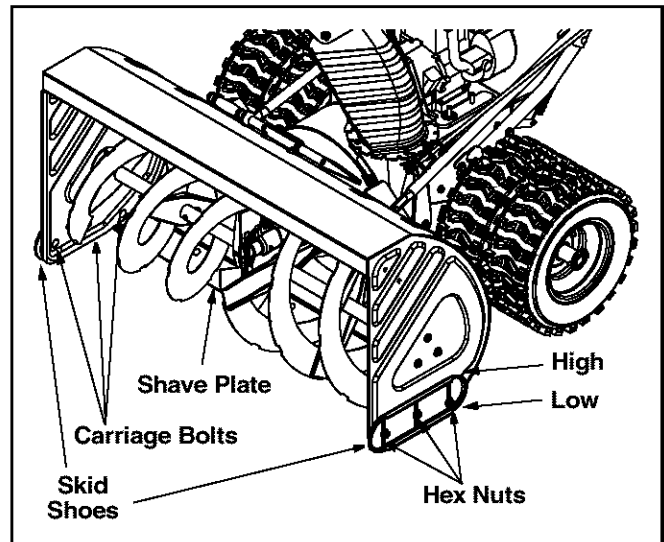

Figure 12
For close snow removal, as when using on a smooth concrete or asphalt driveway, place the skid shoes in the low position. Use the middle or high position when the area to be cleared is uneven. When operating on gravel, always put skid shoes in the high position. See Figure 12.
- Remove the six carriage bolts (three per side), bell washers and hex nuts which secure the skid shoes to the snow thrower on either side. See Figure 12.
- Reassemble new skid shoes with the hardware removed earlier (cupped side of bell washer against the skid shoes). Make certain the skid shoes are adjusted to be level. Refer to Figure 12.